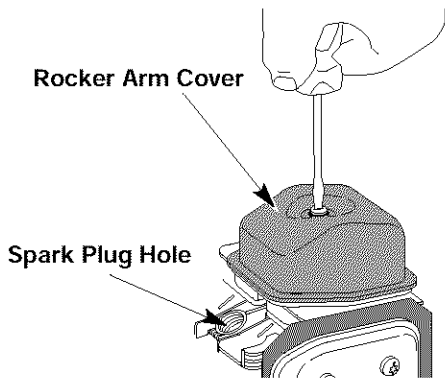

Fig. 44
- Clean dirt from around the rocker arm cover. Remove the screw holding the rocker arm cover with a large flat blade screwdriver or Torx T-25 bit (Fig. 44). Remove the rocker arm cover and gasket.
- The piston is at the top of its travel while looking in the spark plug hole (Fig. 44)